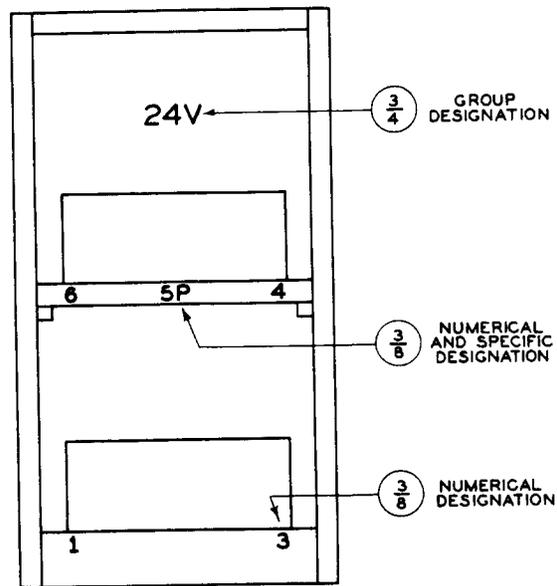

Fig. 7 - Multicell Battery Units in Metal Cabinet
2.11 Cells in Boxes or Trays: Apply a numerical designation for the first and last cells in each tray. If the box contains more than one group of cells, number the first and last cell of each group and use brackets on the outside to indicate each group. (See Fig. 7, 8, and 9.)